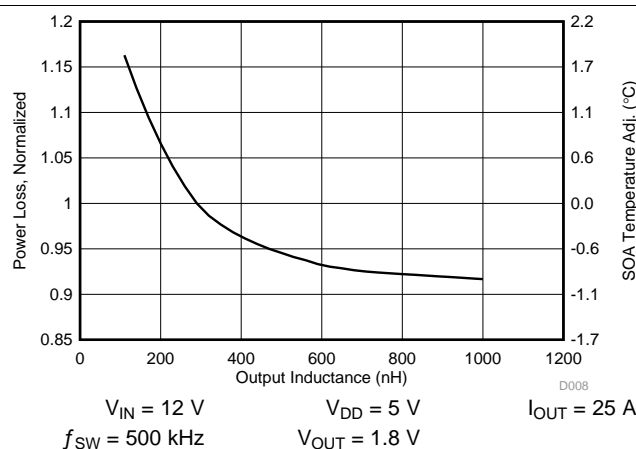

Figure 11. Normalized Power Loss vs Output Inductance
- Normalized Power Loss for output inductor ≈ 1.07 (Figure 11)
- SOA adjustment for output inductor $\approx 0.74^{\circ}\text{C}$ (Figure 11)